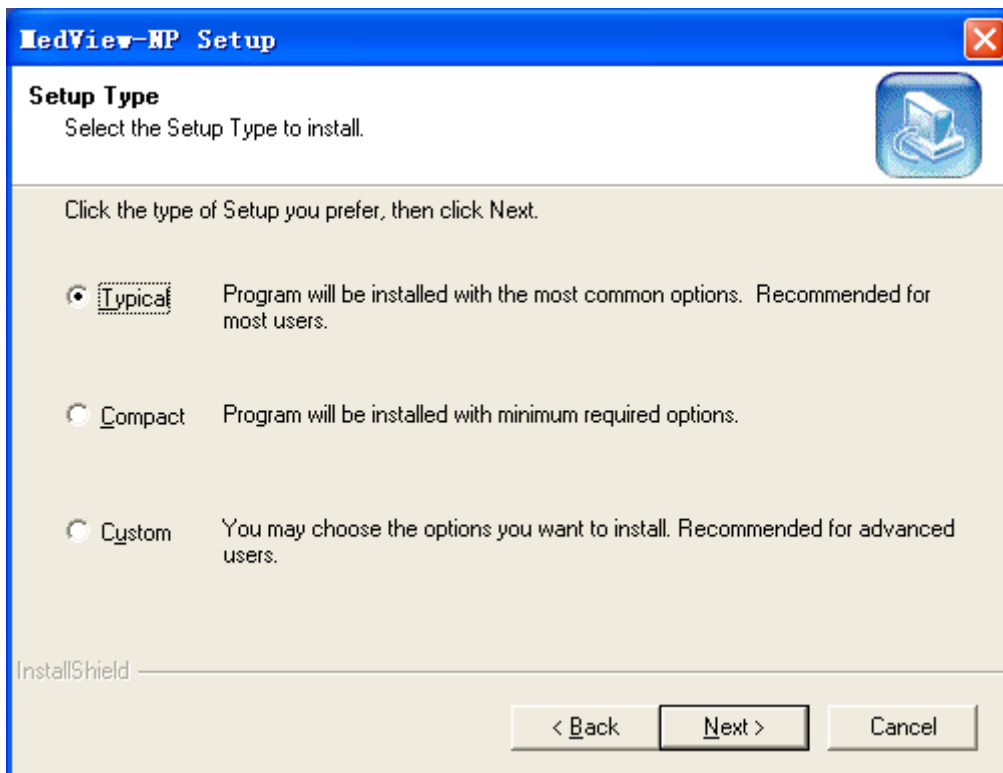
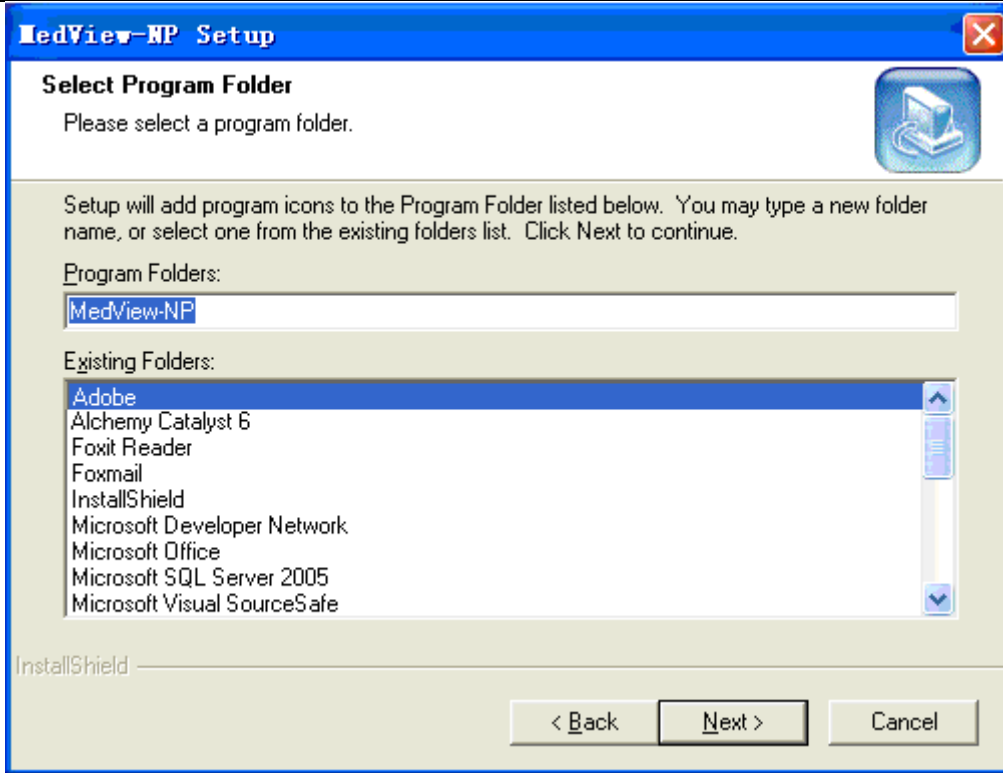

Figure 2-5
Figure 2-6 Click “Next”
(5) To choose MedView-NP setup type, click the radio button “Typical”, “Compact” or “Custom” in Figure 2-5, then click “Next”, the Figure 2-6 will appear.